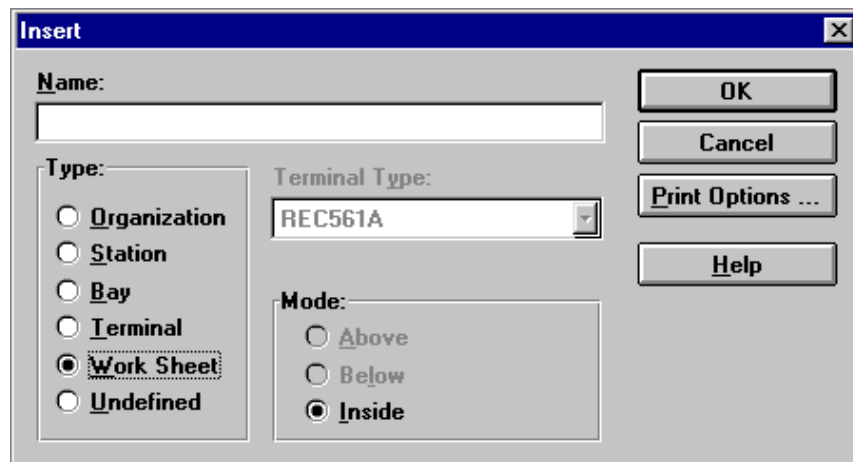

Fig. 6 Insert dialog box.
- 2 Select the 'Insert' icon on the toolbar. A dialog box appears, see Fig. 6.